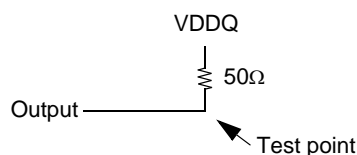

Figure 2 : Pulldown slew rate test load
- b. Pulldown slew rate is measured under the test conditions shown in Figure 2.